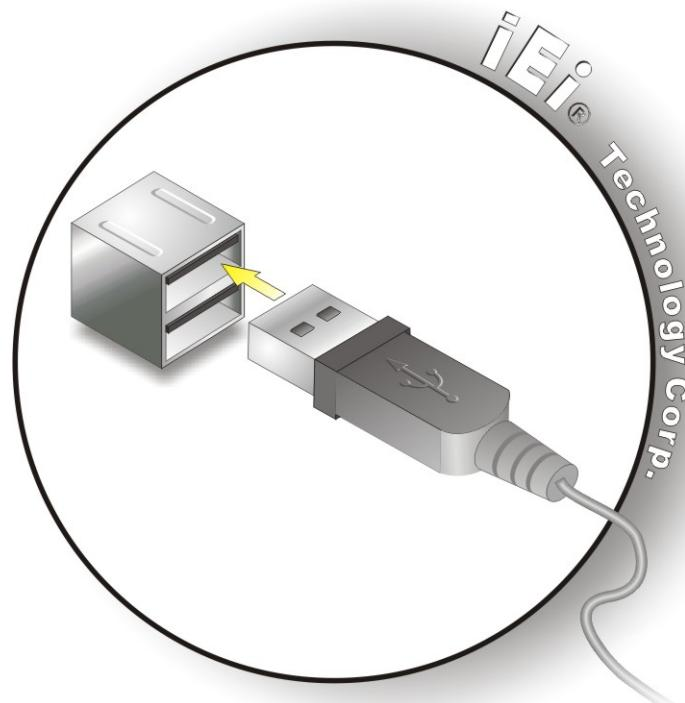

Figure 4-15: USB Connector
**Step 2: Insert a USB Series "A" plug.** Insert the USB Series "A" plug of a device into the USB Series "A" receptacle on the external peripheral interface. See **Figure 4-15**.